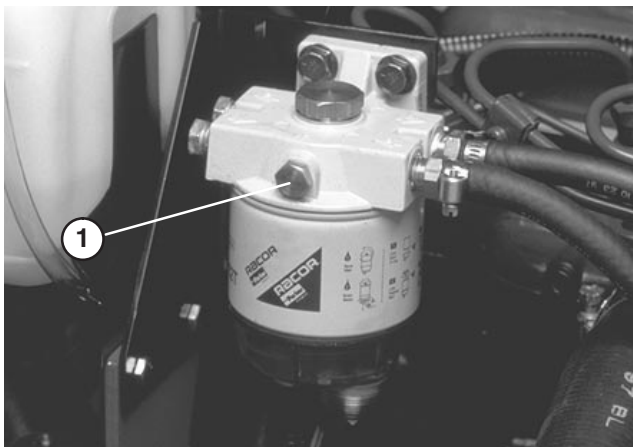

Figure 29
2. Loosen air bleed screw on top of fuel filter/water separator (Fig. 29).